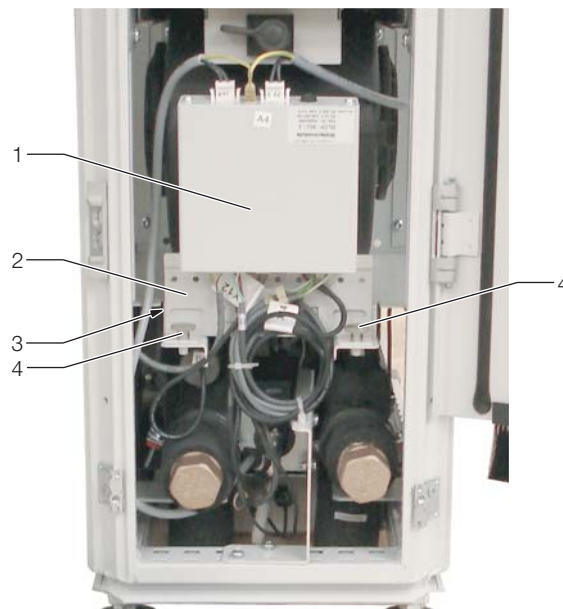

Fig. 24: Water module control unit
- Loosen both thumb screws (Fig. 24, item 4) from the control unit holder (Fig. 24, item 3) and completely unscrew them.
- Remove the control unit together with the holder (Fig. 24, item 1 and item 3) from the mounting plate (Fig. 24, item 2) and set it down outside the Liquid Cooling Package Inline.